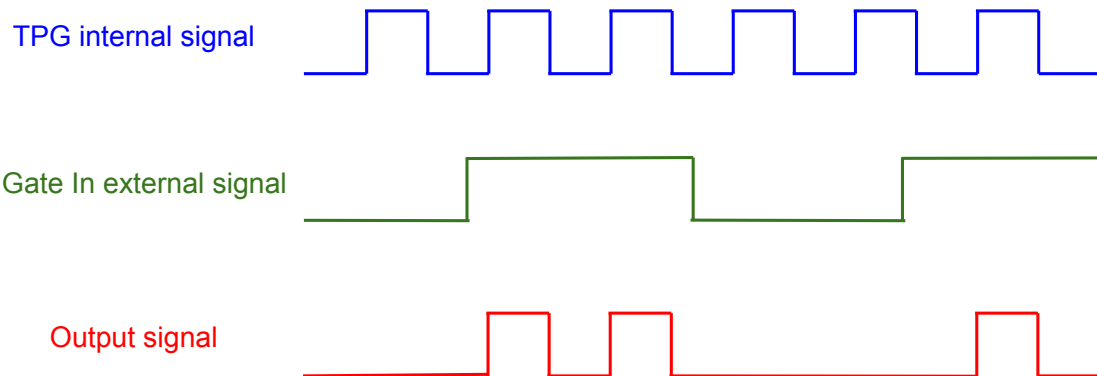

Figure 5.5.: TPG **Gate IN** external mode signal.
- the output generated with the **Gate IN** is a train of pulses corresponding to intANDext signals, as shown in figure 5.5.